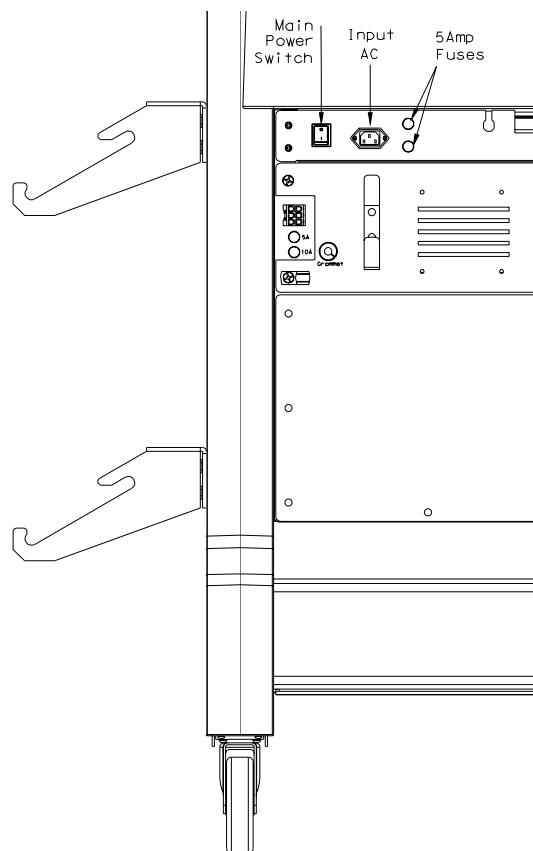

Figure 2 - Console rear view with PC access panel attached
6. Remove the back panel from the rear of the console as shown in Figure 2.
10. Route cables from each of the above peripherals to the rear of the PC. Refer to the drawing detail in Figures 2 and 3 for proper cable connections.